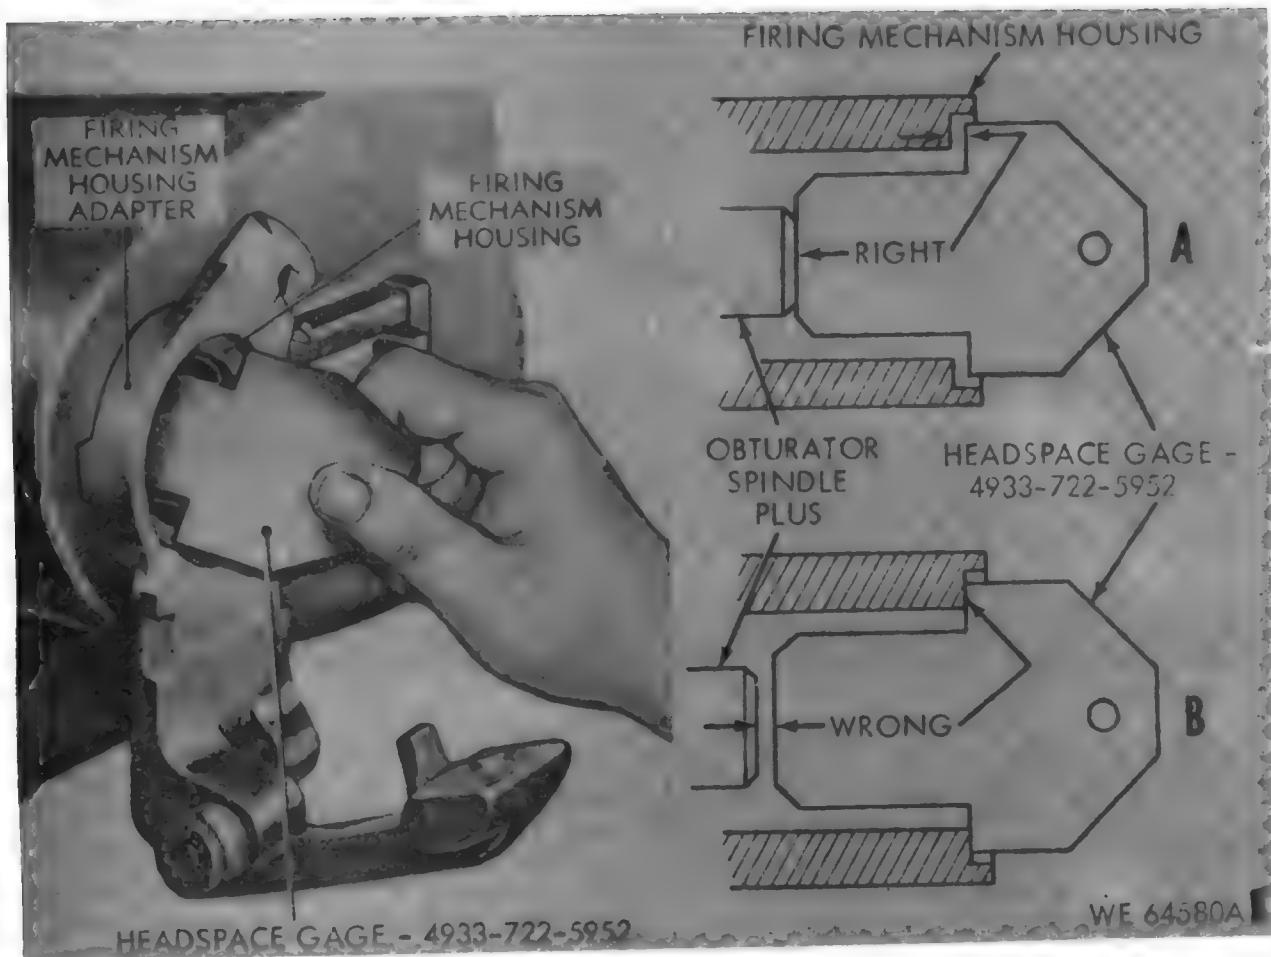

Figure 121. Checking headspace.
(1) The distance between the rear face of the firing mechanism housing and the end of the obturator spindle (fig. 121) is commonly called headspace. Excessive headspace can result in a ruptured primer and early failure of the spindle due to gas erosion in the primer seat, commonly known as gas wash. Contamination of the breech mechanism with powder residue will also occur when the primer is not properly seated in the end of the obturator spindle.
(2) To check headspace, remove the firing mechanism M1 from the breech assembly. Insert the headspace gage into the firing mechanism housing (fig. 121).
(3) When the headspace is adjusted correctly, there will be a space 1/16 inch between the rear face of the housing and the shoulder of the headspace gage (A, fig. 121).
(4) If the shoulder of the gage contacts the rear face of the housing (B, fig. 121), excessive headspace is indicated and headspace must be reset.